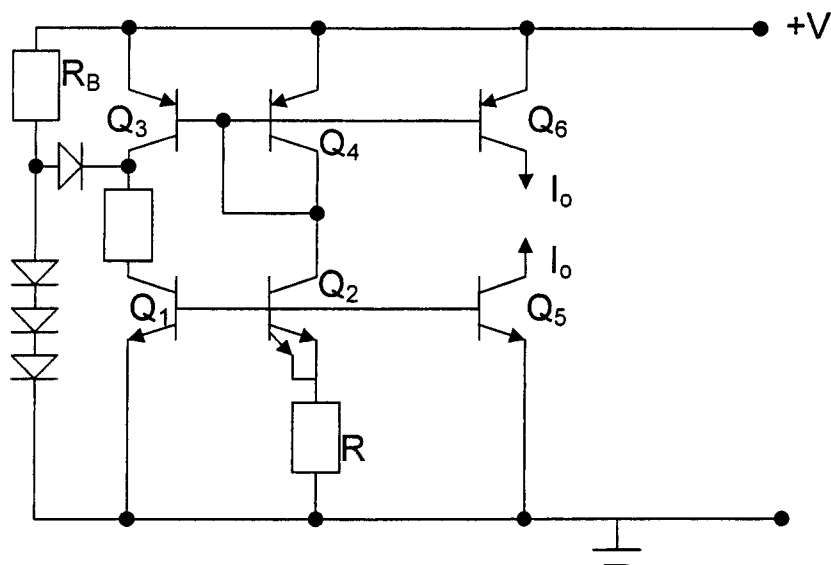

Figure 2.1
- (b) Calculate the fractional temperature coefficient for the constant current generator of Figure 2.1 at room temperature, given that R is a polysilicon resistor with a temperature coefficient of 1500 ppm/ $^\circ\text{C}$.